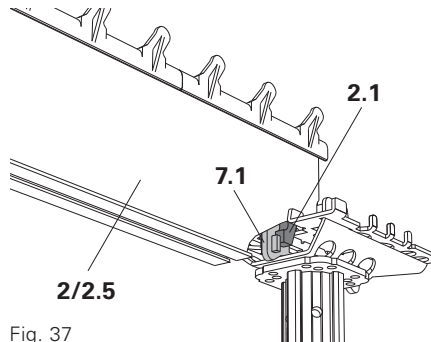

Fig. 37
- Main Beam SLT 225 (2),
- SLT 150 (2.5) (Fig. 37)